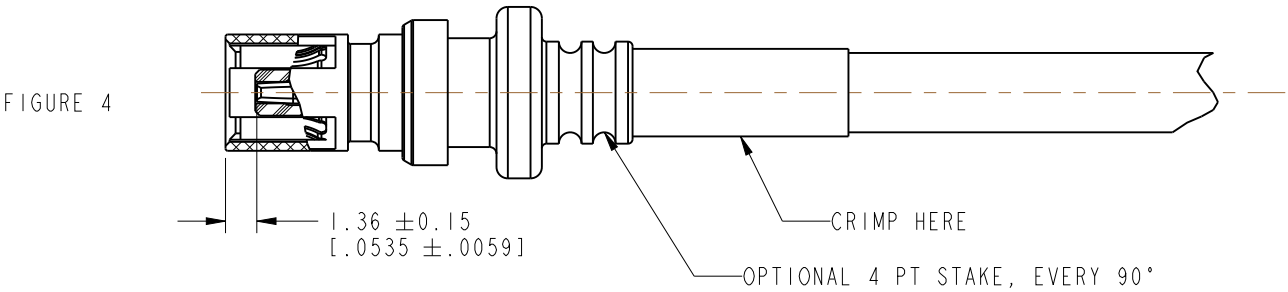

FIGURE 4
- 4. OPTIONAL LEONI DACAR 462-2 CABLE PROCESSING MAY REQUIRE ADDITIONAL STAKING OPERATIONS FOR ENHANCED RF PERFORMANCE ABOVE 1 GHz. SEE FIGURES 4 & 9 - STAKE TO ACHIEVE INTERNAL BARREL ID 1.40mm. CONTACT FACTORY FOR ASSISTANCE.